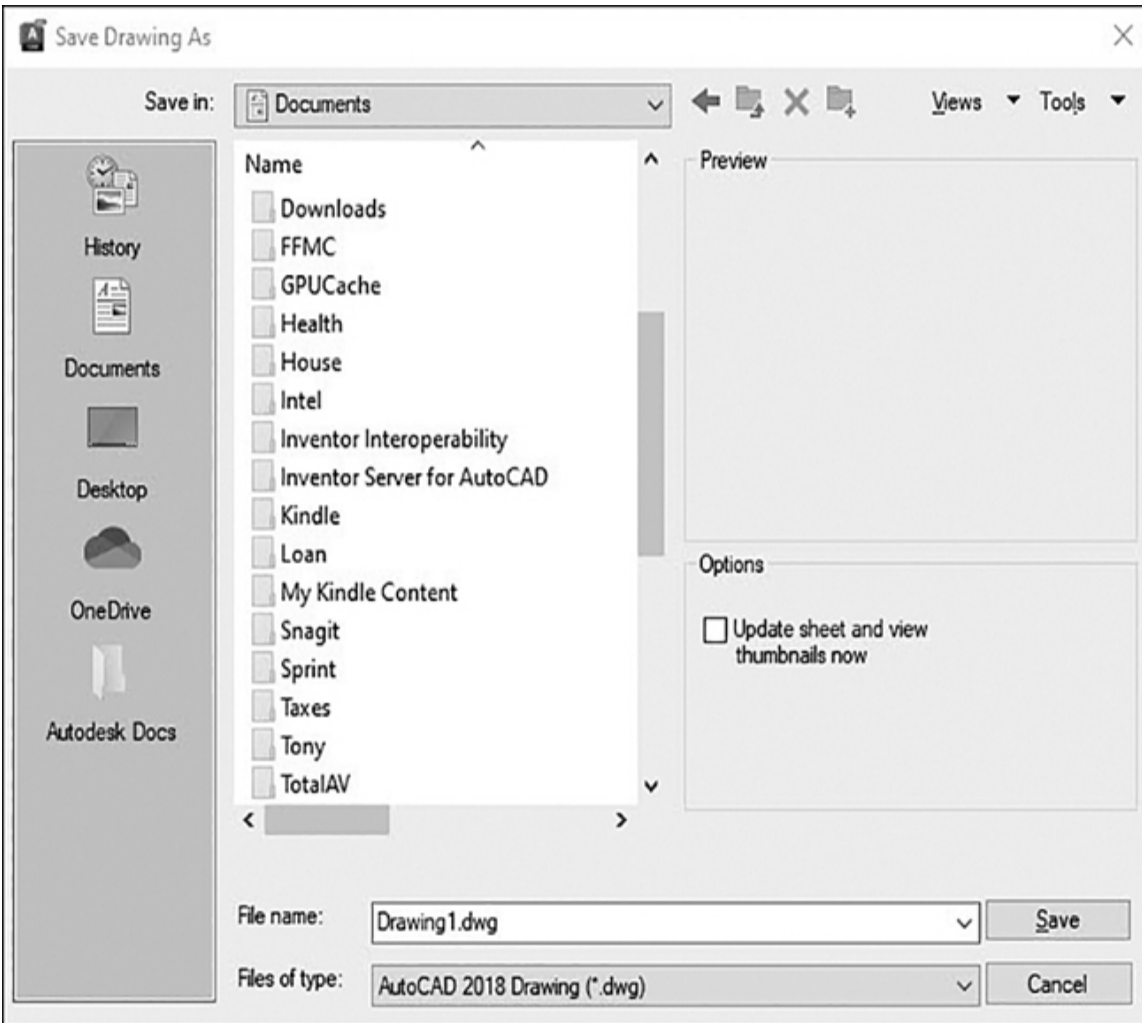

Figure 2-2
The **QSAVE** command is short for “Quick Save,” although it is not so quick the first time you use it. The first time you use **QSAVE**, the standard Windows **Save Drawing As** file dialog box shown in Figure 2-2 is displayed so that you can give the drawing a file name and folder location to store the file on your computer or network. Subsequent use of the **QSAVE** command simply updates the file in its specified location, hence the “Quick” part.
- 5 Choose the **Save** button from the **Quick Access** toolbar, and save your drawing as CH02_EXERCISE using the **Save Drawing As** file dialog box shown in Figure 2-2.